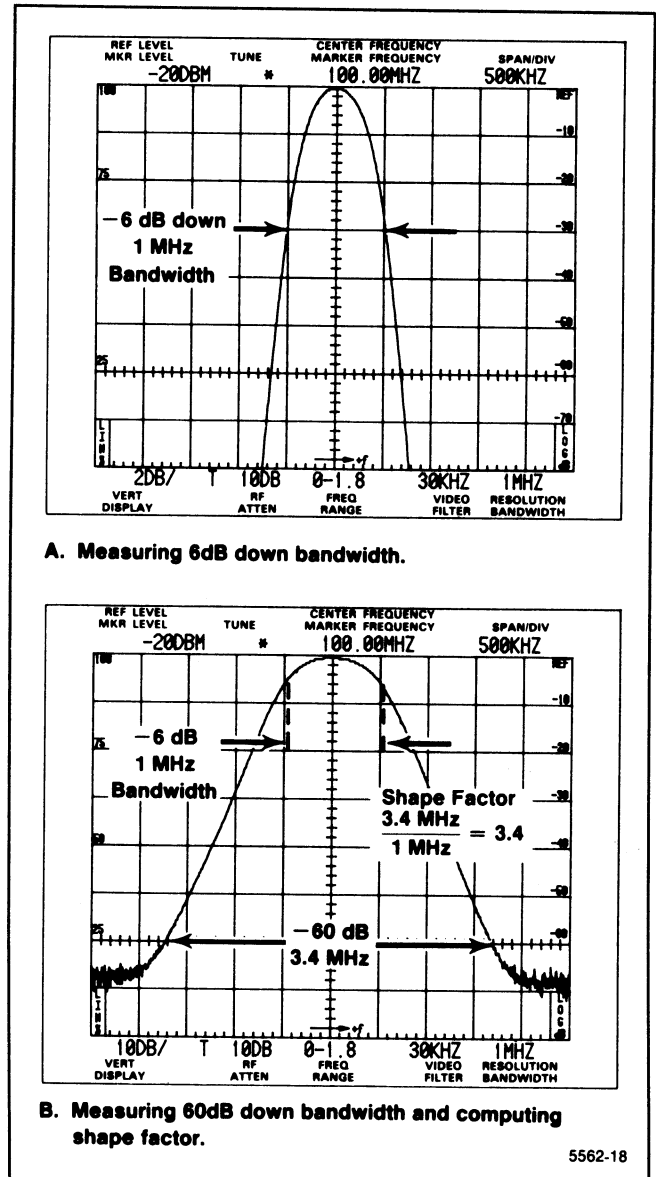

Figure 4-10. Typical display for measuring bandwidth and shape factor.
d. Check that the shape factor is 7.5:1 or less. The shape factor is the ratio of -60 dB/-6 dB bandwidths (see Figure 4-10).